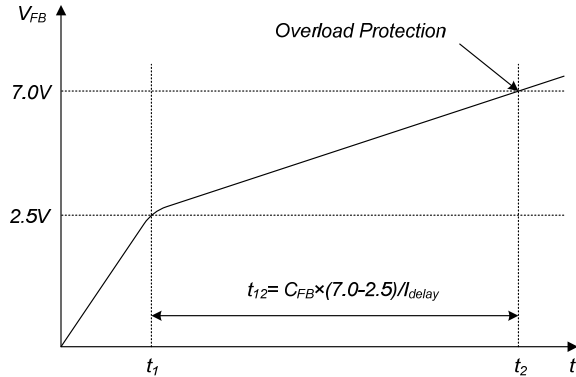

Figure 20. Overload Protection
7.0V, when the switching operation is terminated, as shown in Figure 20. The delay for shutdown is the time required to charge C_{FB} from 2.5V to 7.0V with $2.0\mu\text{A}$. A 25 ~ 50ms delay is typical. This protection is implemented in auto-restart mode.